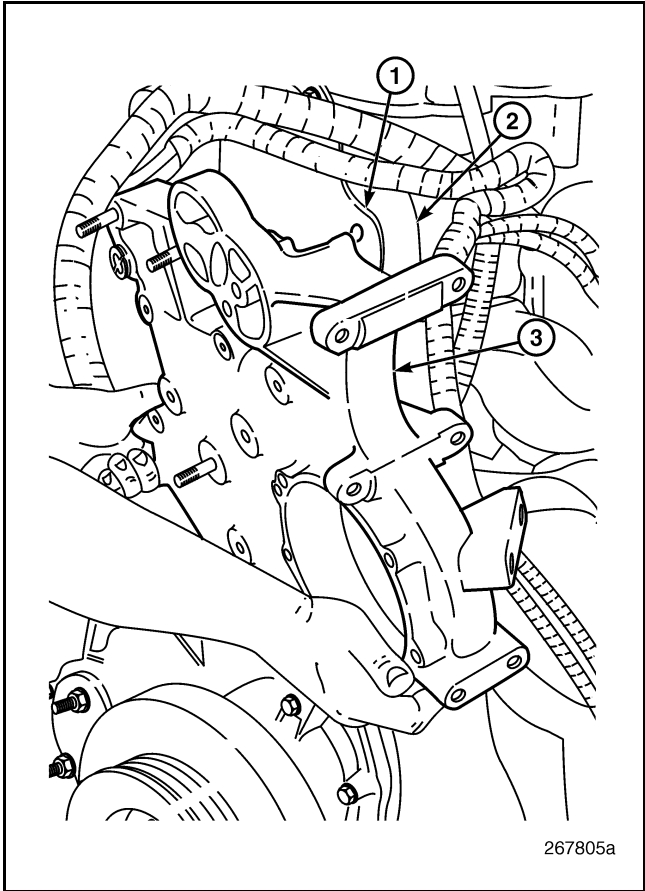

Figure 151 — Water Pump Housing Removal
- 9. Remove the housing from the cylinder block (Figure 151).